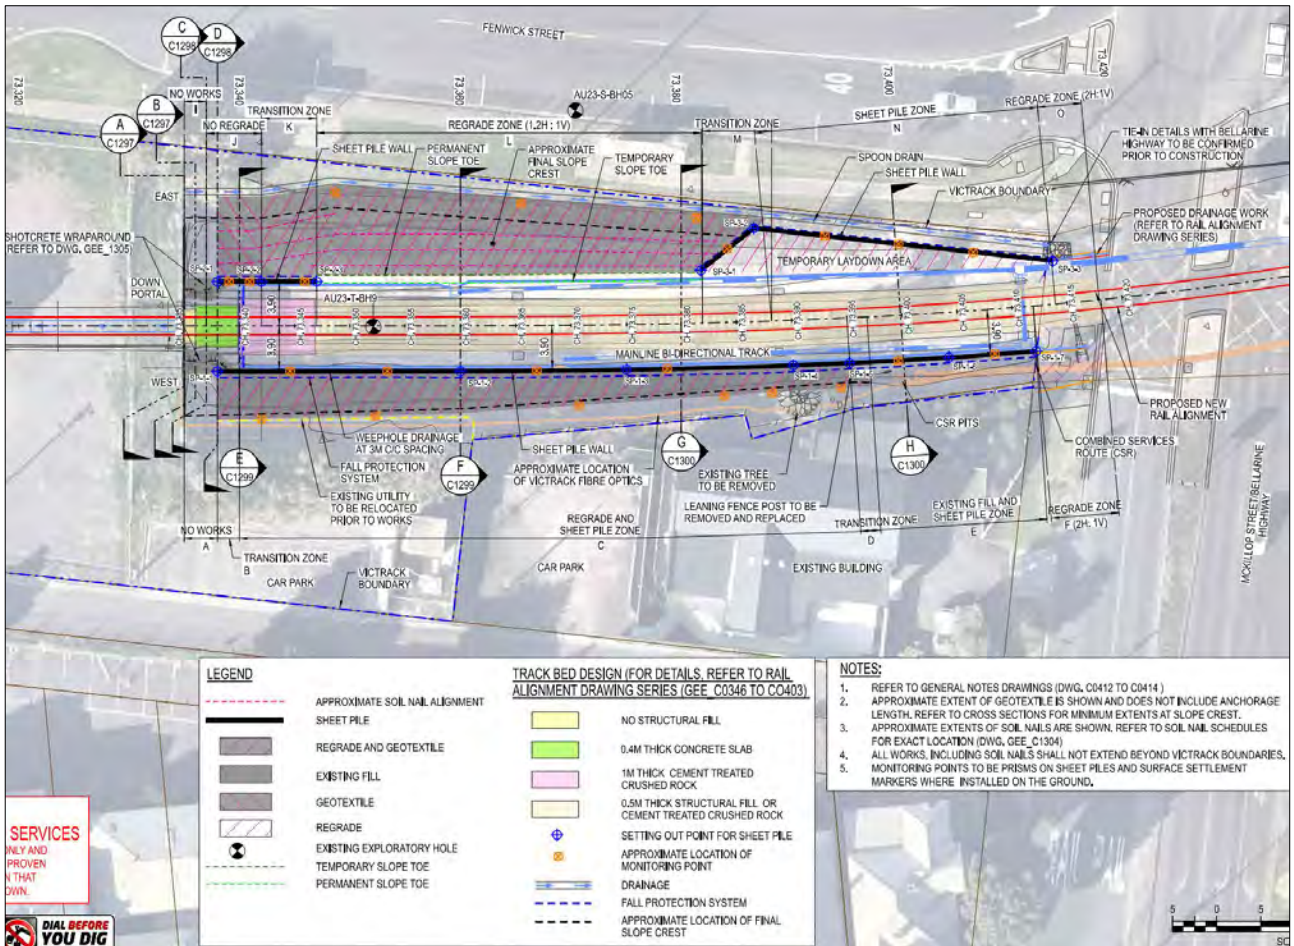

FIGURE 20: PLAN SHOWING RETAINING WORKS AT DOWN END PORTAL. (SOURCE: AURECON/VLINE)
- o Install sheet piles adjacent to existing brick portal (see Figure 20);